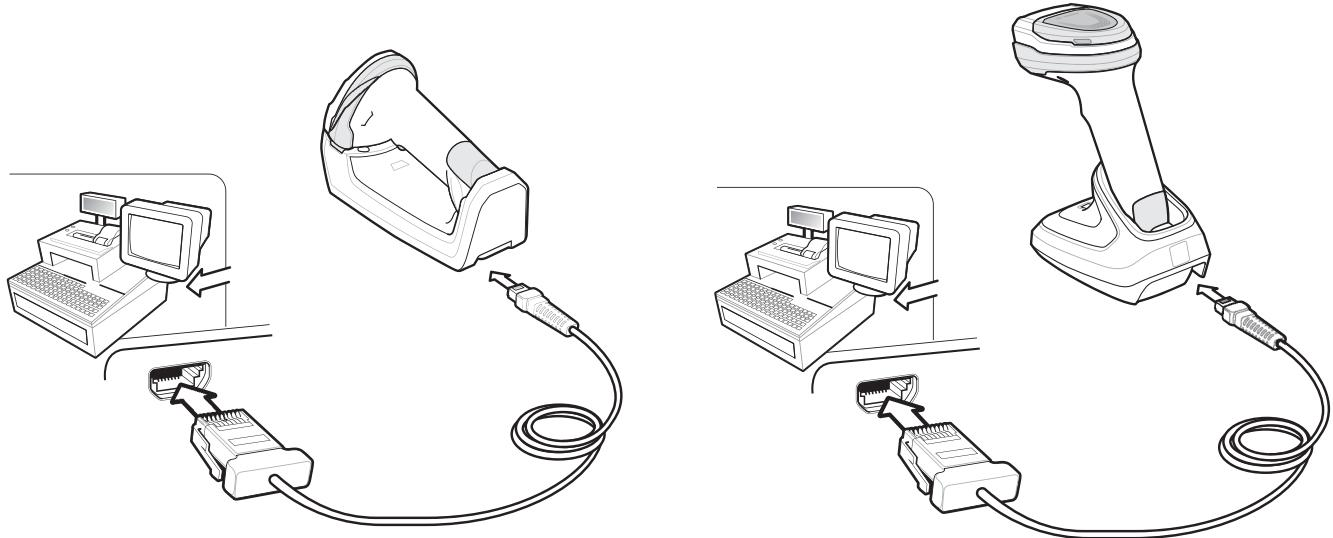

Figure 10-1 *IBM Direct Connection*
- ✓ **NOTE** Interface cables vary depending on configuration. The connectors illustrated in Figure 10-1 are examples only. The connectors may be different from those illustrated, but the steps to connect the cradle remain the same.